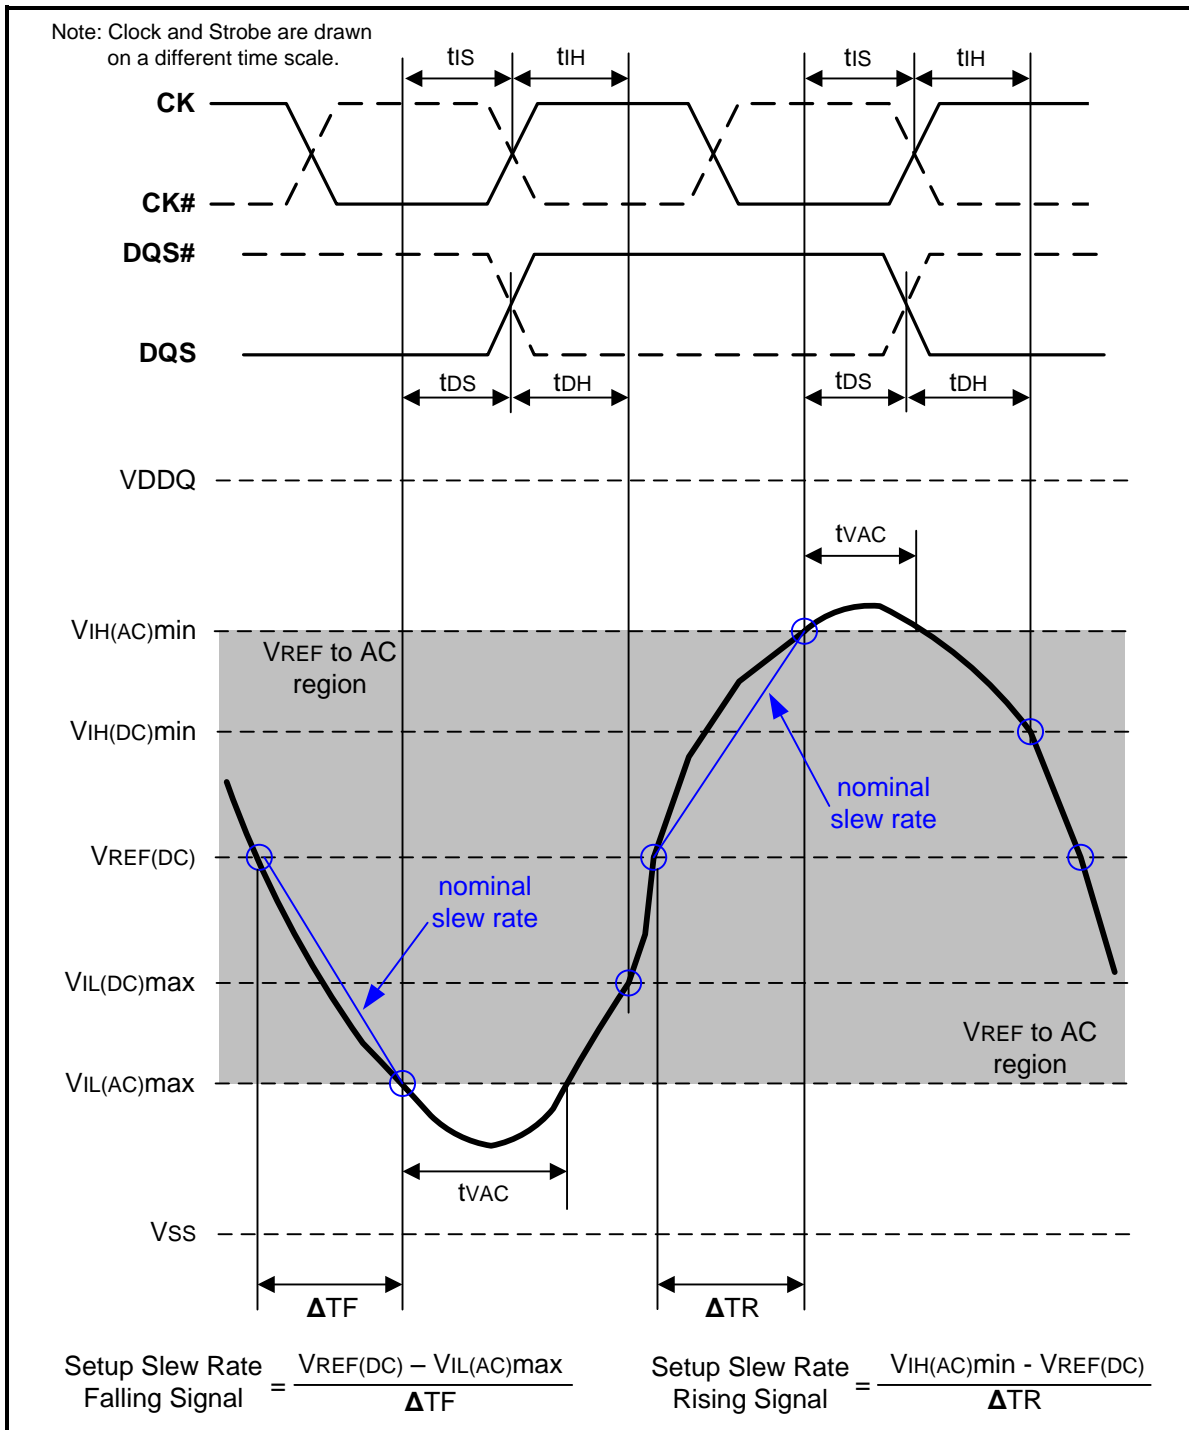
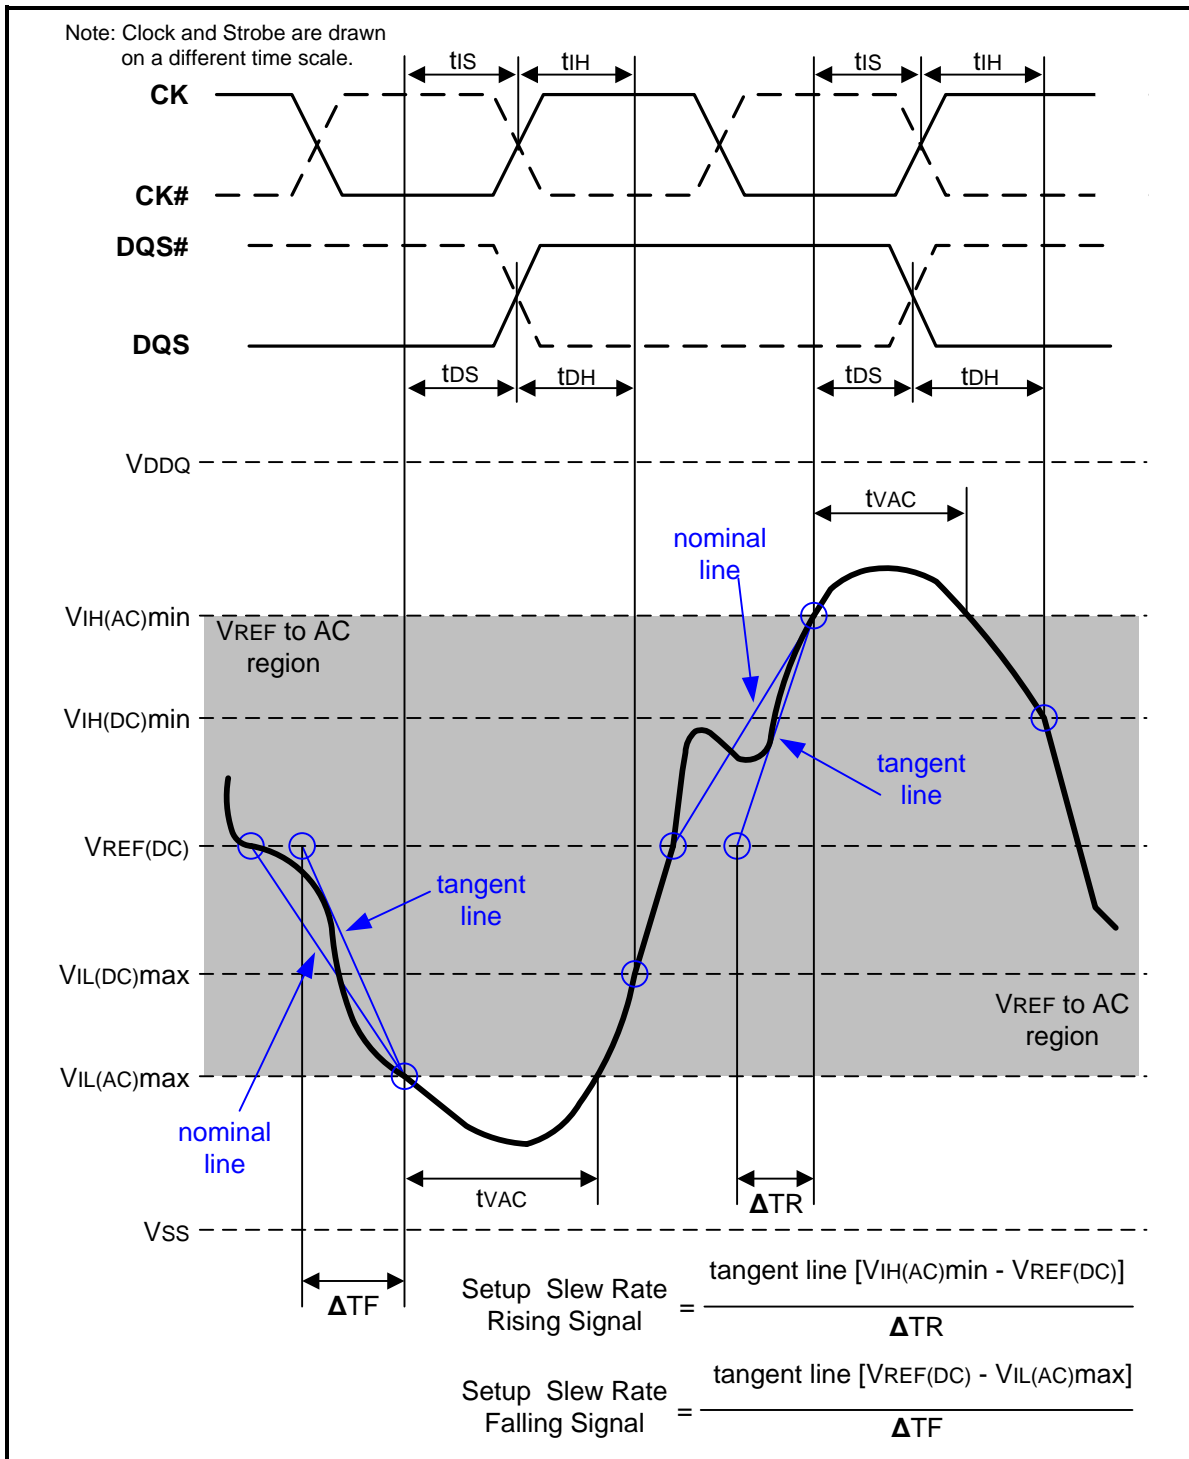

Figure 107 – Illustration of nominal slew rate and tvAC for setup time tDS (for DQ with respect to strobe) and tIS (for ADD/CMD with respect to clock)
Figure 109 – Illustration of tangent line for setup time t_{DS} (for DQ with respect to strobe) and t_S (for ADD/CMD with respect to clock)
Setup (t_{IS}) nominal slew rate for a rising signal is defined as the slew rate between the last crossing of $V_{REF}(\text{DC})$ and the first crossing of $V_{IH}(\text{AC})_{\text{min}}$. Setup (t_{IS}) nominal slew rate for a falling signal is defined as the slew rate between the last crossing of $V_{REF}(\text{DC})$ and the first crossing of $V_{IL}(\text{AC})_{\text{max}}$. If the actual signal is always earlier than the nominal slew rate line between shaded 'VREF(DC) to AC region', use nominal slew rate for derating value (see Figure 107). If the actual signal is later than the nominal slew rate line anywhere between shaded 'VREF(DC) to AC region', the slew rate of a tangent line to the actual signal from the AC level to $V_{REF}(\text{DC})$ level is used for derating value (see Figure 109).
Setup (tDS) nominal slew rate for a rising signal is defined as the slew rate between the last crossing of VREF(DC) and the first crossing of VIH(AC)min. Setup (tDS) nominal slew rate for a falling signal is defined as the slew rate between the last crossing of VREF(DC) and the first crossing of VIL(AC)max (see Figure 107). If the actual signal is always earlier than the nominal slew rate line between shaded 'VREF(DC) to AC region', use nominal slew rate for derating value. If the actual signal is later than the nominal slew rate line anywhere between shaded 'VREF(DC) to AC region', the slew rate of a tangent line to the actual signal from the AC level to VREF(DC) level is used for derating value (see Figure 109).